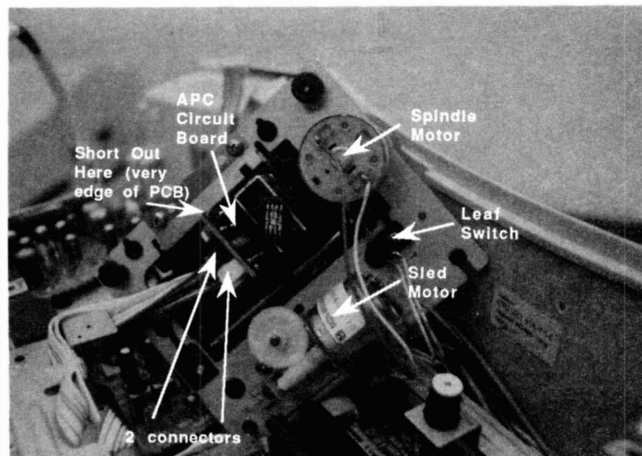

Figure 7
C. To prevent electrostatic damage to the mechanism, solder and short out the two points on the APC circuit (very corner of PCB, see Figure 7).
D. Flip PCB up and disconnect the 2 connectors from the APC circuit (Figure 7).
A. Desolder the **red** and **white** wires from the **spindle motor** (Figure 7).
B. Desolder the **orange** and **brown** wires from the **sled motor** (Figure 7).
C. Desolder the **yellow** wires from the **leaf switch** (Figure 7).
A. Solder the **yellow** wires to the **leaf switch** terminals (Figure 7).
B. Solder the **orange** and **brown** wires to the **sled motor** terminals (Figure 7).
C. Solder the **red** and **white** wires to the **spindle motor** terminals (Figure 7).
D. Reconnect 2 connectors to the APC circuit. (Figure 7).
E. Desolder the shorted point on the APC circuit (Figure 7).